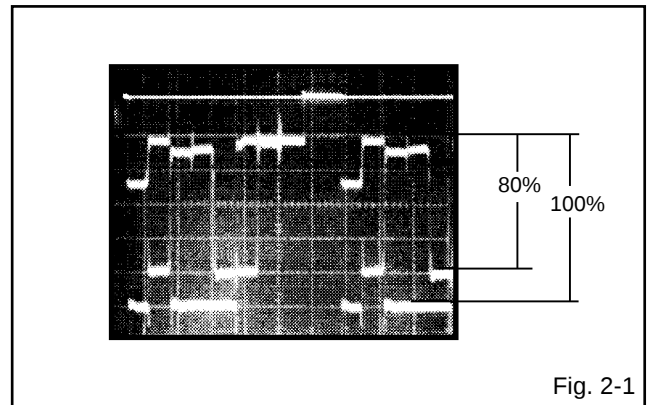

Fig. 2-1
7. Press the S-COLOR +/- button on the Jig Remocon until the red color level is adjusted to $80 \pm 10\%$ of the white level. (Refer to Fig. 2-1)